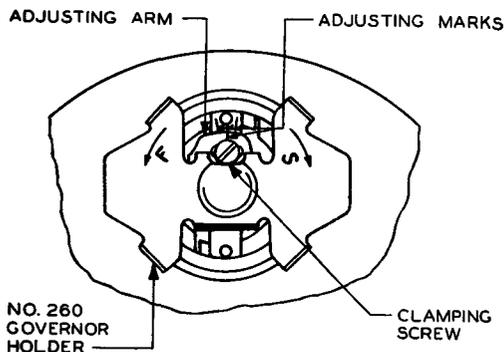

Fig. 24— Position of the No. 260 Governor Holder on the 2-, 4-, and 5-Type Dials
- (2) To adjust the speed of a dial, place the No. 260 dial governor holder on the governor as shown in Fig. 24.
- (3) Loosen the clamping screw with the KS-6854 screwdriver only enough to permit movement of the adjusting arm with slight friction.